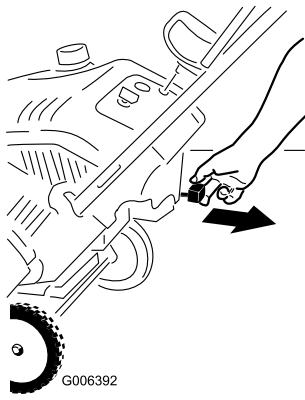

Figure 14
2. Pull out the choke lever (Figure 14).